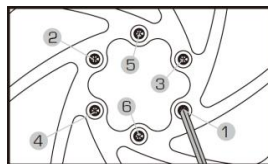

Fig. C-1 Rotor assembly
- Use a star-pattern sequence to tighten the disc rotor bolts. DO NOT simply tighten them clock-wise or counterclockwise. **(Fig. C-1)**